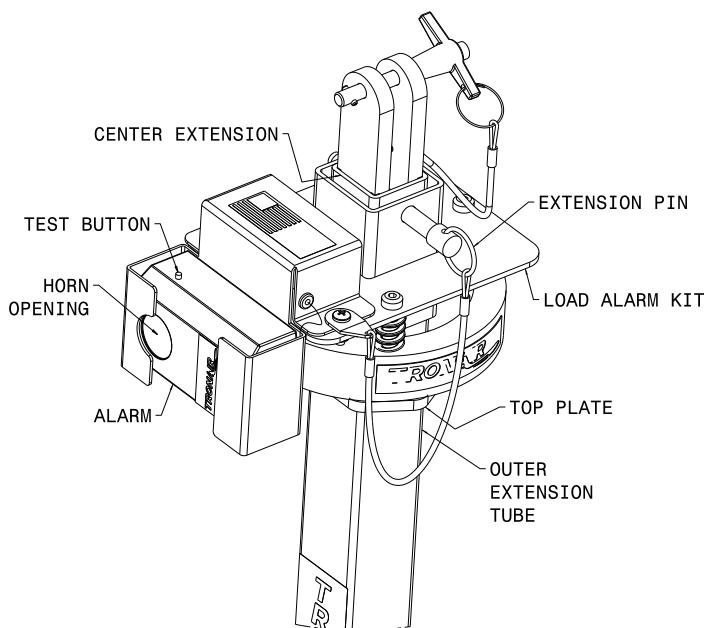

Figure 2
1. Depress test button on alarm to test battery is installation. (see Figure 2)